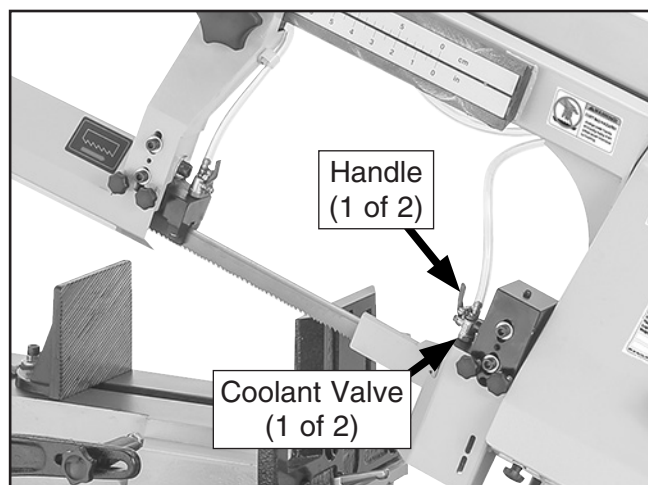

Figure 21. Coolant valves open.
14. Open both coolant valves by turning handles so they are parallel with valves (see **Figure 21**).